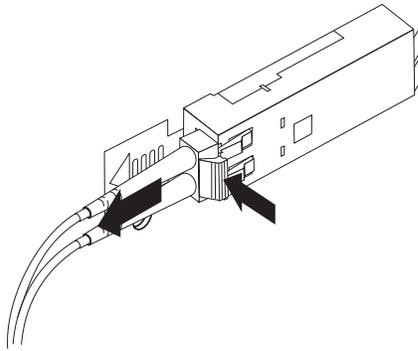

Figure 28. Removing the LC-LC Fibre Channel cable
2. While pressing down the cable lever, carefully pull on the connector to remove the cable from the SFP module, as shown in Figure 28 on page 34.